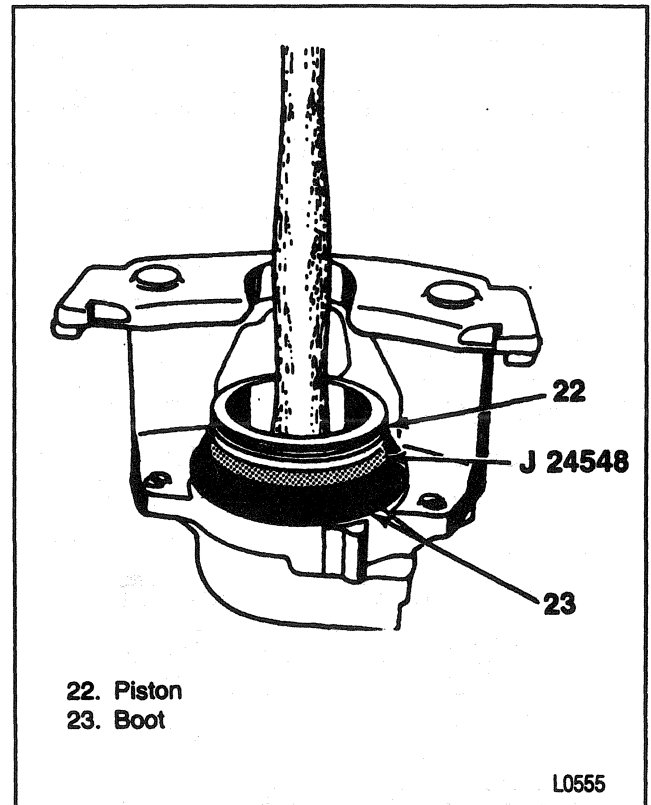

Figure 36—Installing the Piston
5. Piston (22) inside J 24548 (Figure 36).
7. Bleeder valve (20).